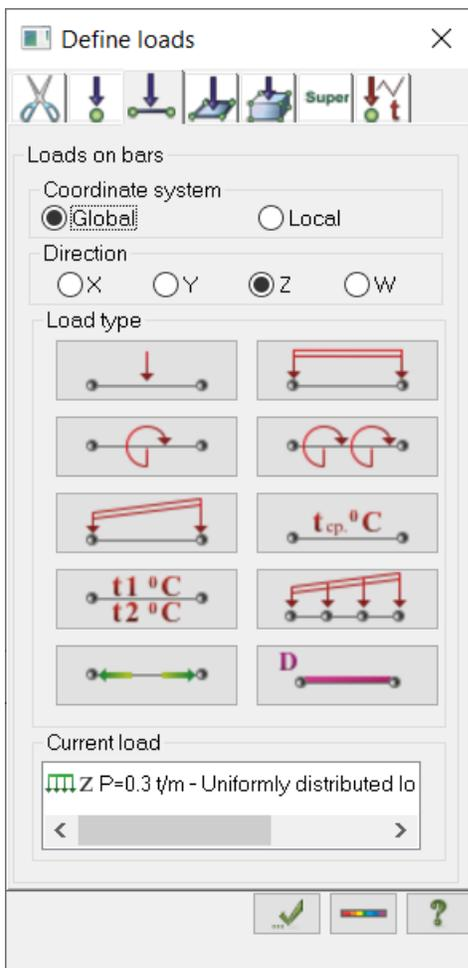

Figure 19.19 Define loads dialog box
To define loads on nodes and elements, on the **Create and edit** ribbon tab, select the **Loads** panel and click appropriate command from the **Loads on nodes and elements** drop-down list. In the **Define loads** dialog box (see Fig. 19.19) specify appropriate data.
- ⇒ In the **Define loads** dialog box (see Fig.19.19), specify **Global** coordinate system and direction along the **Z-axis** (default parameters).